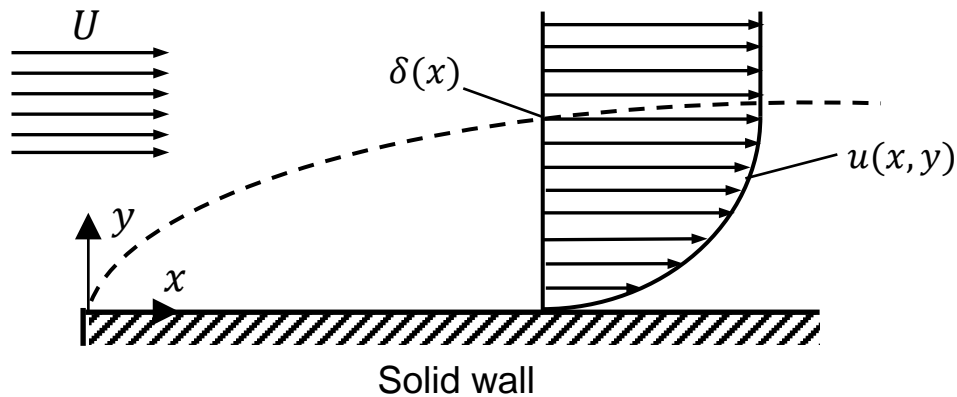

Figure 2[b]
- [b] Air flows past a smooth flat plate with a free-stream velocity (as shown in Figure 2[b]). The streamwise velocity component of the steady, incompressible and laminar flow can be approximated by a simple expression: